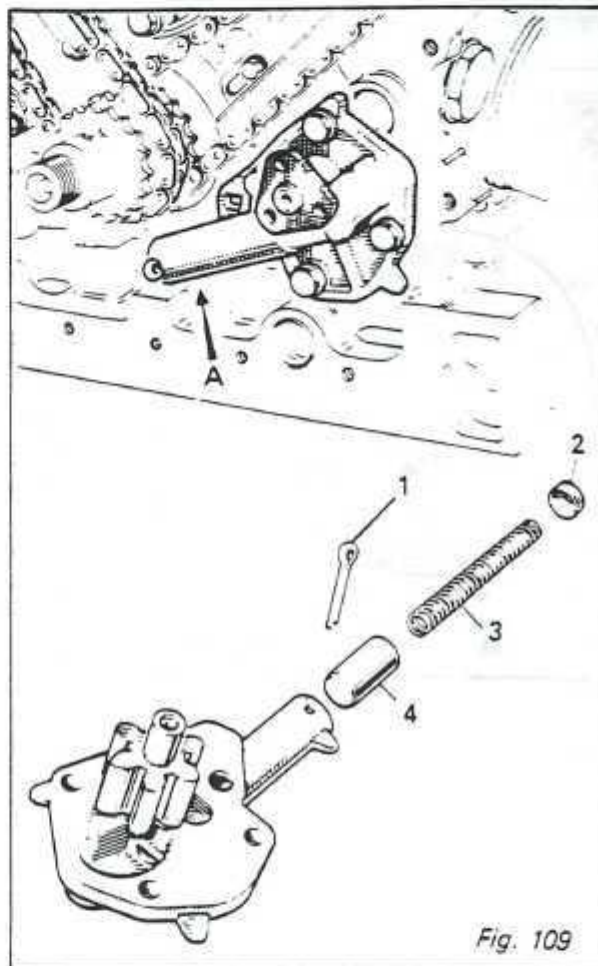

Fig. 109
oil pump cover (never unstick the cover by tapping the release valve boss) (A) (Fig. 109)